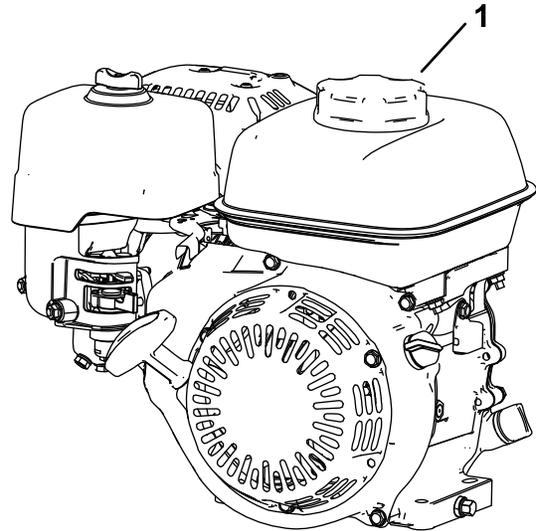

Figure 17
1. Clean around the fuel-tank cap and remove the cap from the tank (Figure 17). Fill the fuel tank to the bottom of the tank-neck opening; refer to your engine *Operator's Manual*.